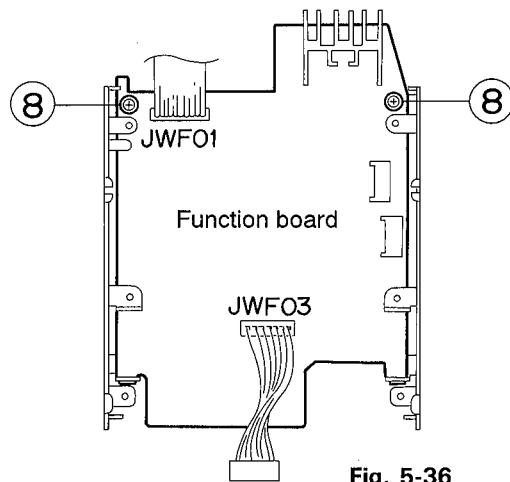
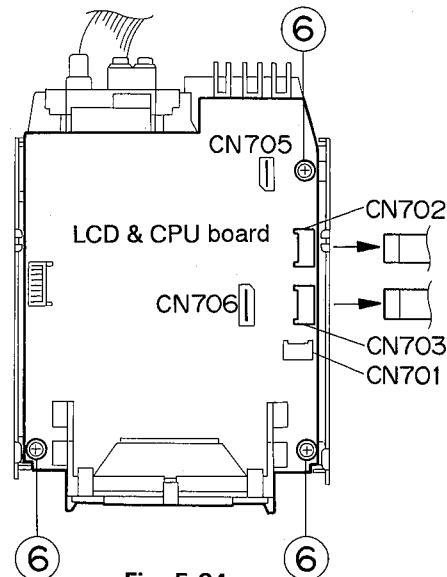
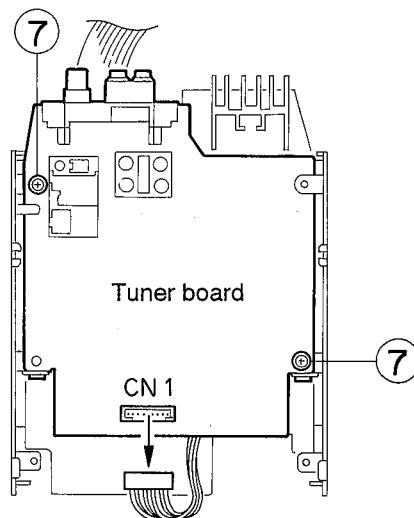

Fig. 5-36
Fig. 5-34
Fig. 5-35
■ Removing the other respective P.C. boards (See Fig. 5-34~36)
1. Removal of LCD & CPU P.C. board (See Fig. 5-34)
- Remove the three screws (6) retaining the LCD & CPU P.C. board, and after disconnecting the card wires respectively from the connectors CN702 and CN703, dismount the LCD & CPU P.C. board.
2. Removal of tuner P.C. board (See Fig. 5-35)
- Remove the two screws (7) retaining the tuner P.C. board, and after disconnecting the harness from the connector CN1, dismount the tuner P.C. board.
3. Removal of function P.C. board (See Fig. 5-36)
- Remove the two screws (8) retaining the function P.C. board, and dismount the P.C. board.